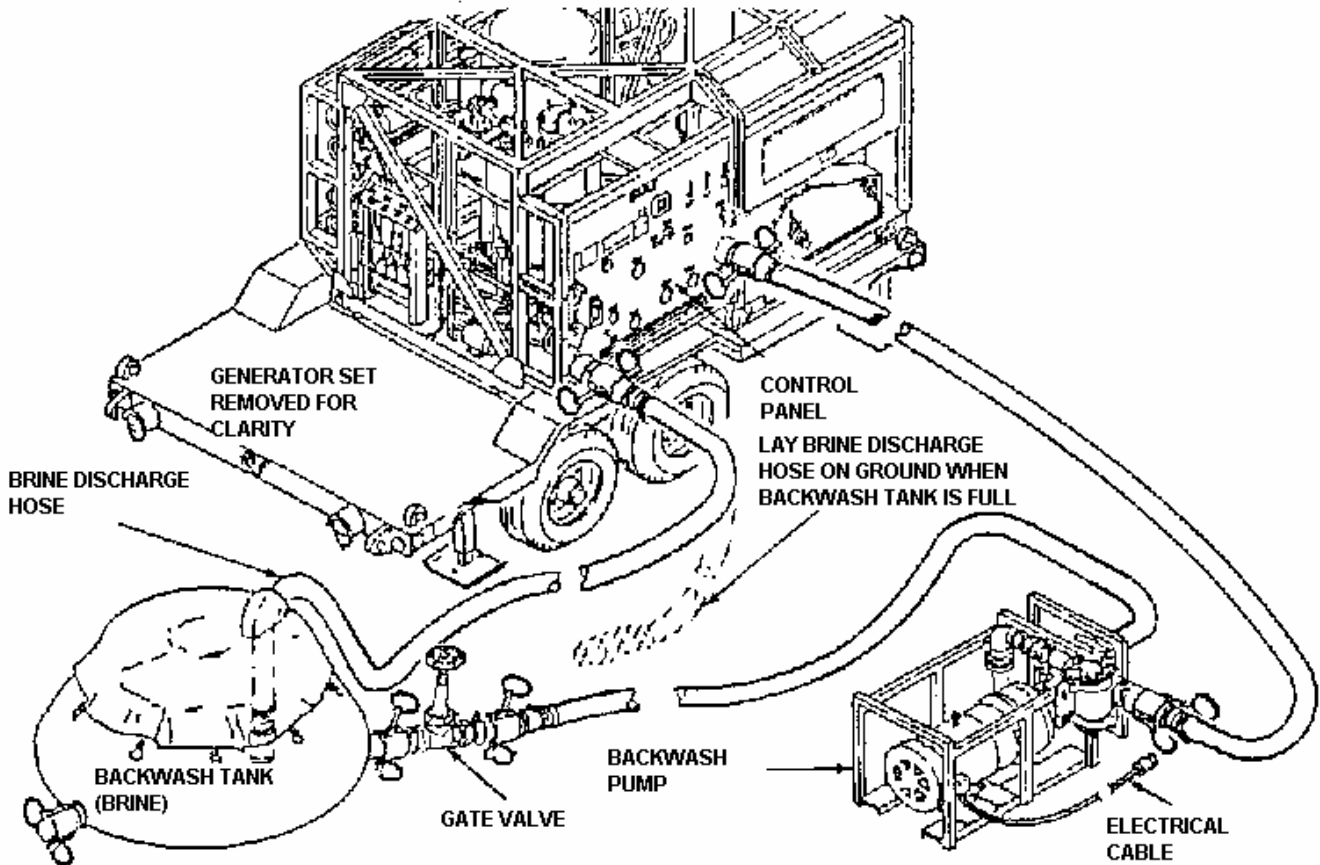

Figure 2-62. Fill Backwash Tank.
k. Fill Backwash (Brine) Tank. Refer to figure 2-62. During operation of the ROWPU, brine water is produced by the R.O. process. The brine water leaves the ROWPU through the BRINE coupling on the control panel. The brine water is stored in the backwash tank for use during the backwash cycle and for cleaning R.O. elements.
- (1) Allow backwash water tank to fill during operation of the ROWPU. Tank should be filled to within 3 inches of top of tank.
- (3) Check brine water level in backwash tank (figure 2-62). Tank should be full.
- (4) Ensure strainer on backwash pump is not clogged (para. 3-6).
- (5) Open gate valve between backwash tank and backwash pump (figure 2-62).